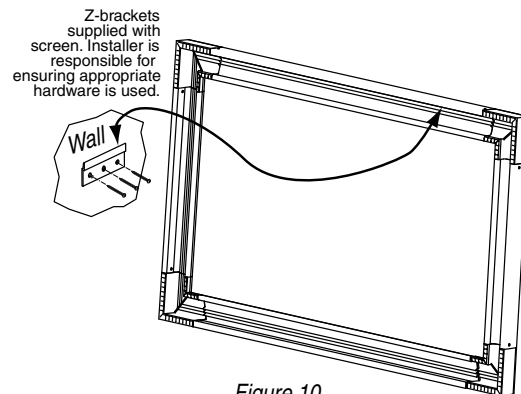

Figure 10
- ② Mark hole centerline so that both Z-brackets can be mounted parallel and at equal height.
- ③ Install Z-brackets so that the outermost edges are safely within the overall length of the aluminum frame extrusion to allow for minor horizontal screen adjustments (hardware for mounting Z-brackets to wall is not supplied).
- ④ Position screen slightly above Z-brackets on wall (see Fig. 10).